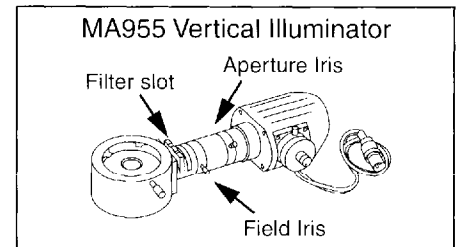

Figure 6
- Models MT9420 and MT9430 have a vertical illuminator (MA955) which is installed on top of the microscope frame first.(Fig.6)